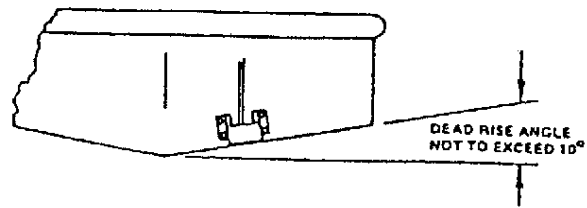

Figure 7. Transducer Mounting Flush with Transom Bottom
- a. If the dead rise angle is 10 degrees or less and the transducer is to be mounted flush with transom's bottom, locate the transducer as illustrated in Figure 7.